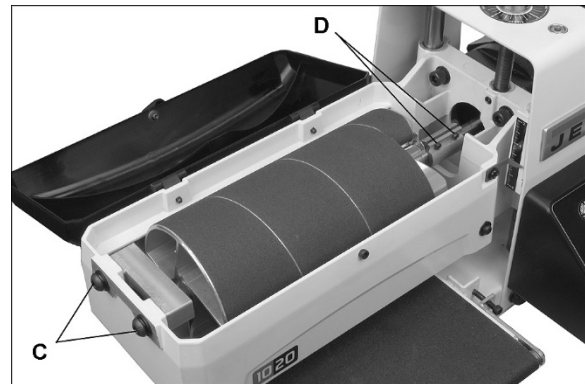

Figure 9-2: Drum Removal
1. Remove two socket head screws (C, Figure 9-2) on the bearing block.
2. Loosen two screws on the coupling (D, Figure 9-2).